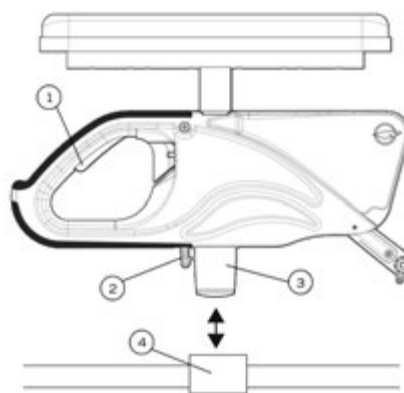

Fig. 6
- Pull lever (1) (Fig. 6) upwards to release the system.